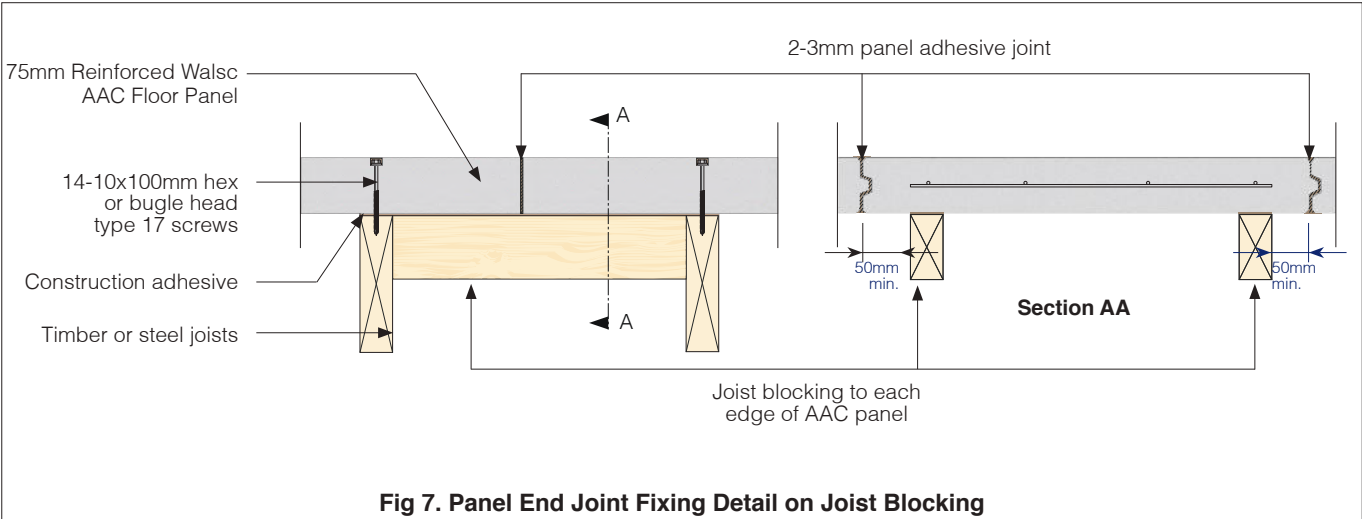

Fig 7. Panel End Joint Fixing Detail on Joist Blocking
6. Where the bearing width of a panel on a joist is less than 25mm, install a ledger plate to increase the bearing width (see Figure 6). Where the end of a panel occurs in between two joists, provide joist blocking as (see Figure 7).